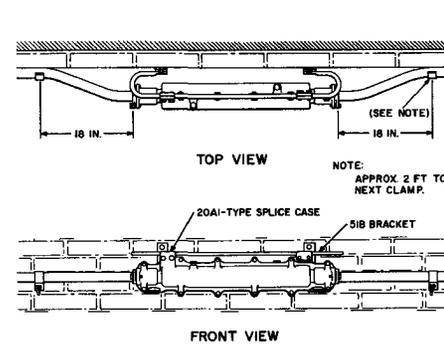

Fig. 11—Typical Bracket and 20A1-Type Splice Case Mounting
4.09 Figure 11 illustrates the mounting of a splice case using the 51B bracket.